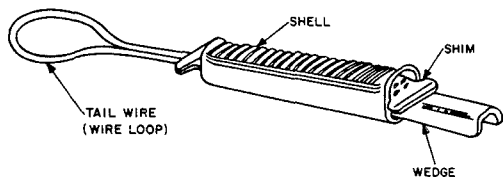

Fig. 8—B or C Drop Wire Clamp
- 4.01** The component parts of the B drop wire clamp (Fig. 8) are made of aluminum alloy with corrosion-resistant steel wire loop on the wedge. This clamp is for general use except in highly corrosive areas.